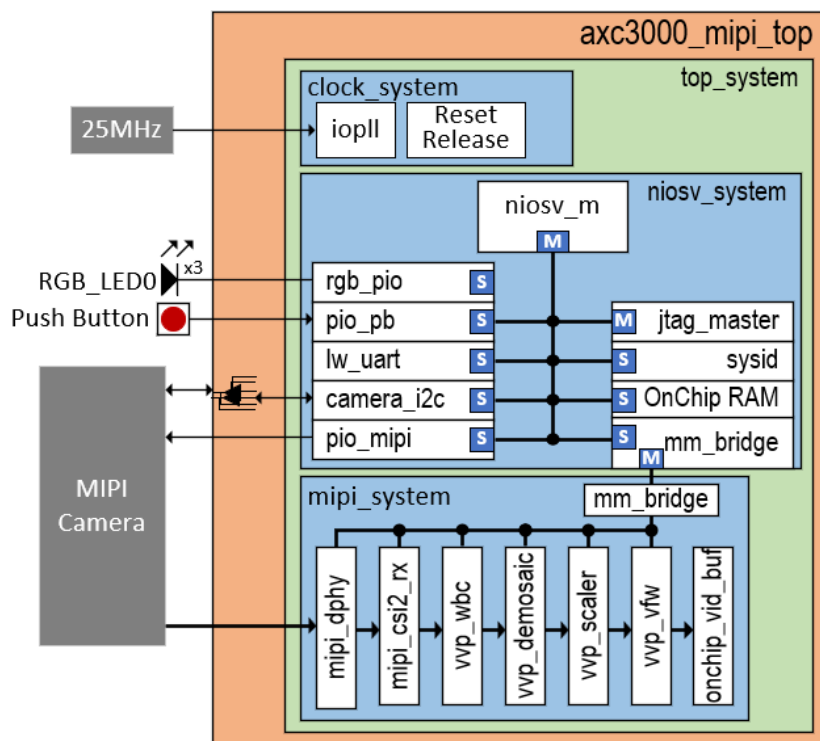

Figure 5-1: Project Block Diagram
- ***top_system.qsys*** holds 3 subsystems, the ***niosv_system.qsys***, ***clock_system.qsys***, and ***mipi_system.qsys***, as seen in Figure 5-1.